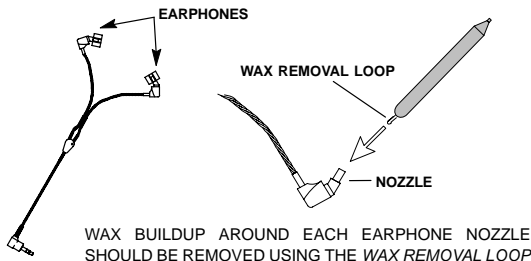

FIGURE 1: E1c/E5c Wax Removal
- *E1c/E5c: clean the nozzles after each use using the supplied wax removal tool (see figure 1 on the following page).*